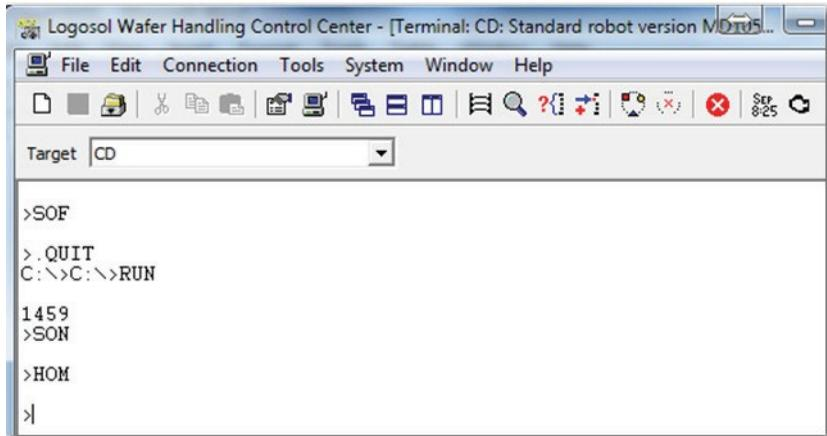

FIGURE 6-7: Returning the Robot to Home position
3. Execute the following commands (see Figure 6-7):